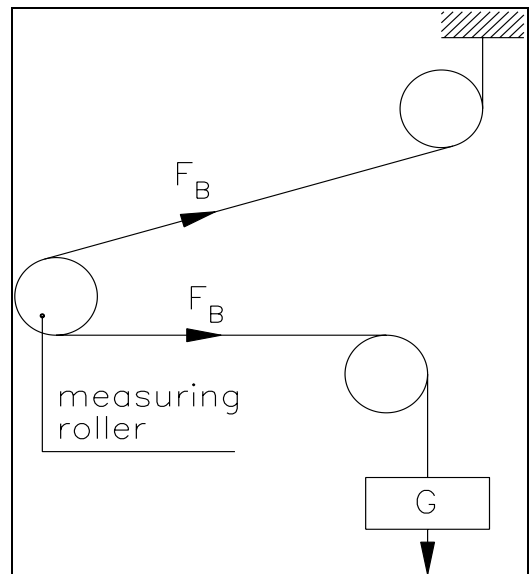

fig. 16: Calibration measuring amplifier
The following instructions refer to a setup and calibration in the installing machine. The material tension is simulated by a weight (fig. 16).
- Load material or rope with a defined weight (fig. 16)